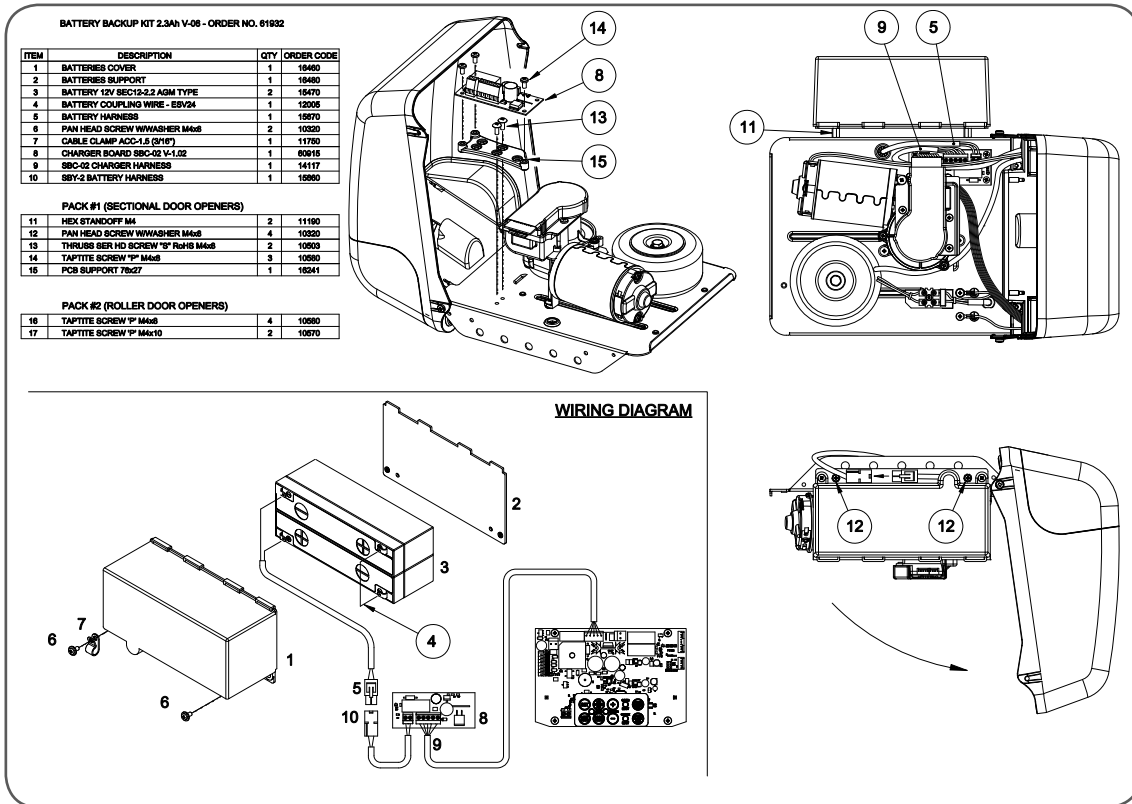

fig 44
- Remove screws and swing open the cover (**Fig 44**).
- Mount the PCB support with two screws item # 13. Secure the SBCO-2 Charger Board onto the PCB support with three (3) screws item #14.
- Mount Battery Backup and secure with item 11 and 12.
- Connect battery harnesses item 5 and 10 together (**Fig 44**).